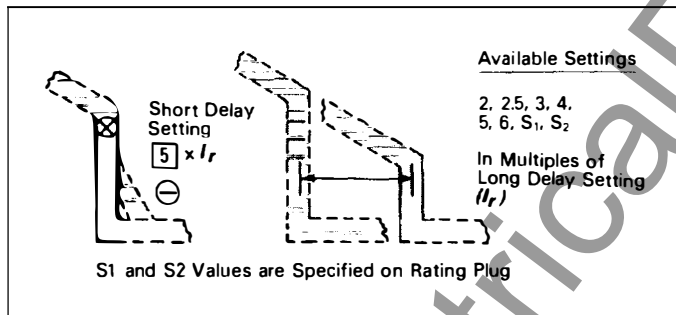

Fig. 4.3 Short Delay Current Settings
There are eight (8) available Short Delay Current Settings, as illustrated in Fig. 4.3. Six settings are in the range from 2 to 6 times I_r and the other two settings are “S1” or “S2” times I_r . (REMEMBER: I_r is the Long Delay Current Setting). The values that “S1” and “S2” have depend upon the type of circuit breaker, and are specified both on the rating plug label (see Fig. 6), and on the applicable Time-Current Curves referenced in Section 9.0.